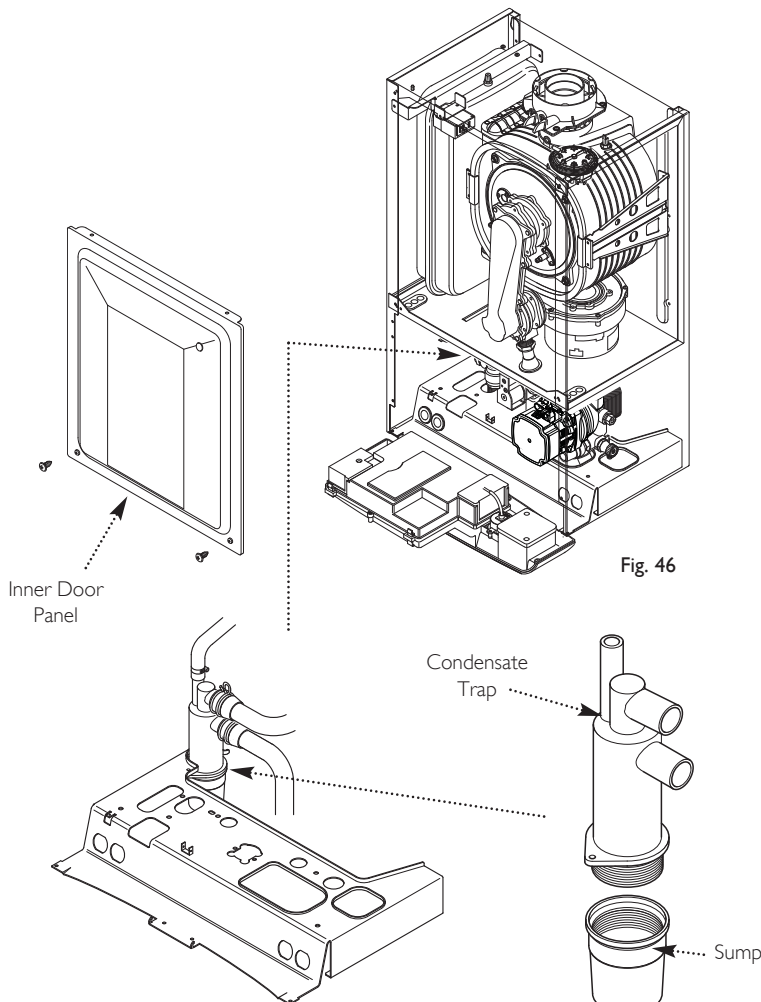

Fig. 47
5. Unscrew the sump from the bottom of the condensate trap assembly (Fig. 47) and remove any deposits from the sump and trap. Clean as necessary and replace the sump.